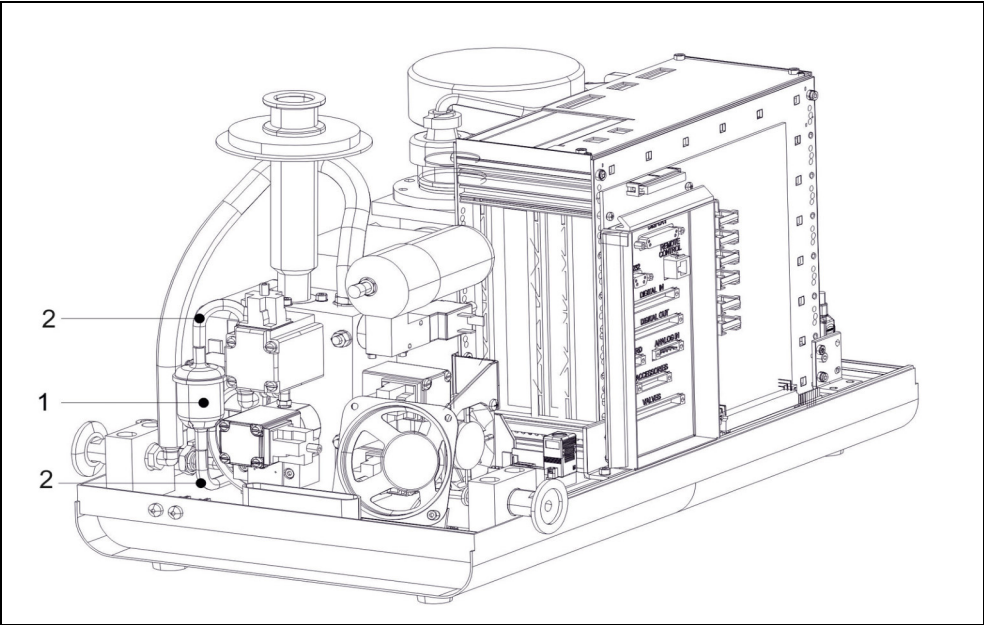

Fig. 7-8 Modul1000 replacement flood filter
- To remove the flood filter, disconnect the hose connections from the quick couplings. By pressing the outer ring on the quick couplings, the hose can be pulled off. Refer to Fig. 7-8 for the installation position.